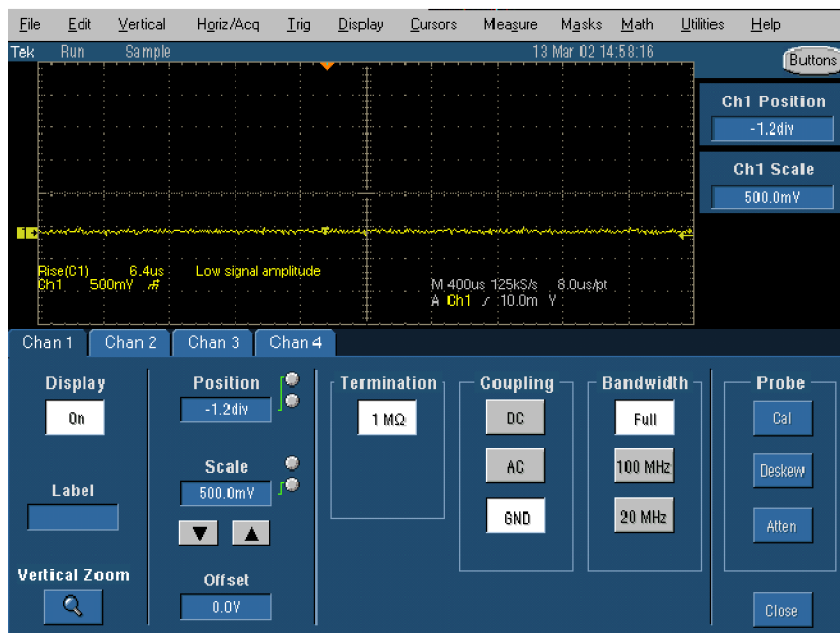

Figure 10: Typical waveform at GND
- Set coupling to GND. The resulting waveform should appear as shown. (See Figure 10.)